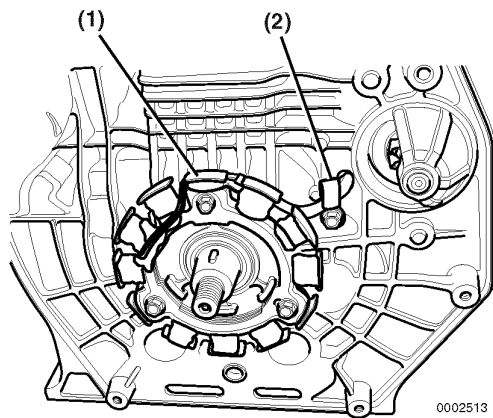

Figure 11-15
14. Remove the stator assembly and lead retainer (**Figure 11-15, (1, 2)**).